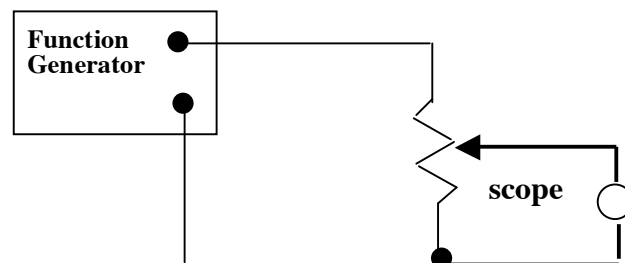

Figure 2: AC level control.
3. *AC level control*: Use a potentiometer to attenuate an ac signal as shown in Figure 2. This is the essence of an audio volume control.